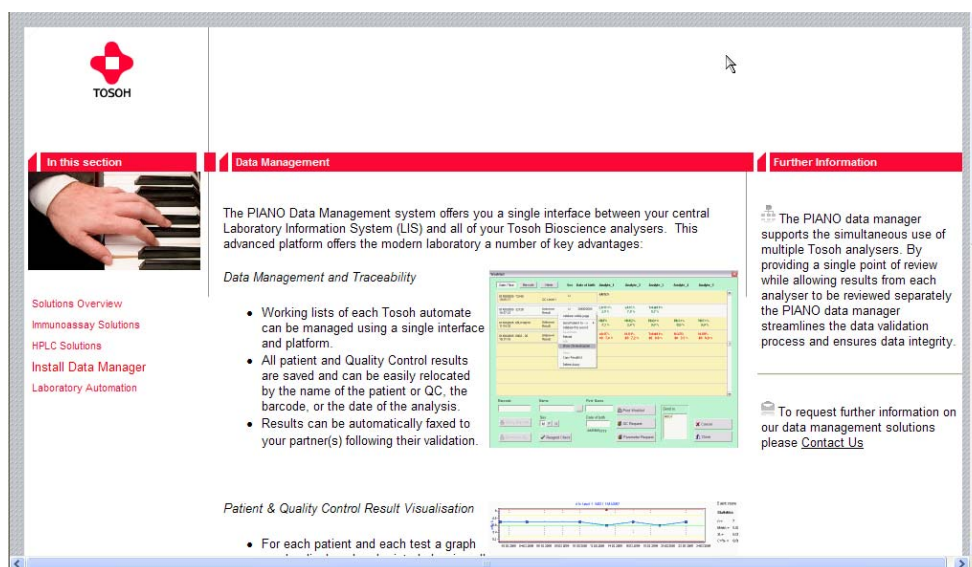

Fig.2.2.1. Piano Evo-4 installation program screen
A. Upon inserting the Piano Evo-4 program CD, a guidance screen will be displayed as shown in fig.2.2.1